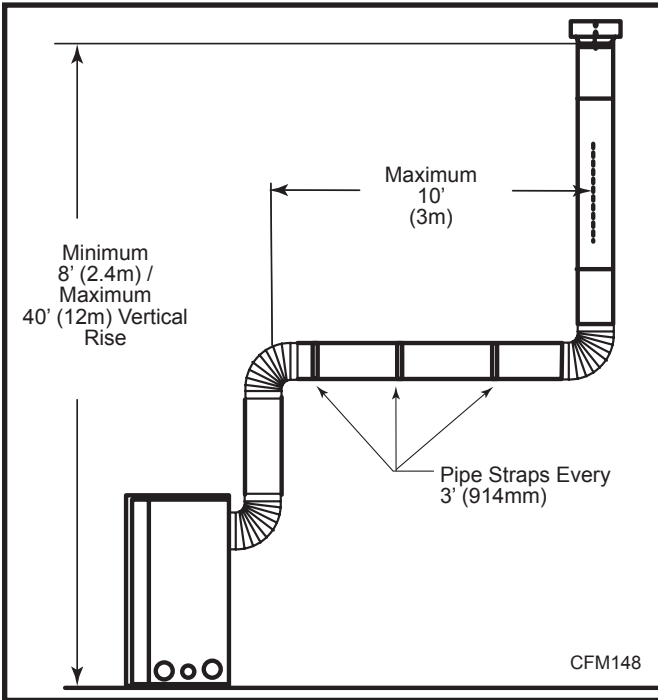

Fig. 34 Support straps for horizontal runs.
- Vertical installations up to 40' (12 m) in height. Up to a 10' (3 m) horizontal vent run can be installed within the vent system using a maximum of two 90° elbows. (Fig. 34)